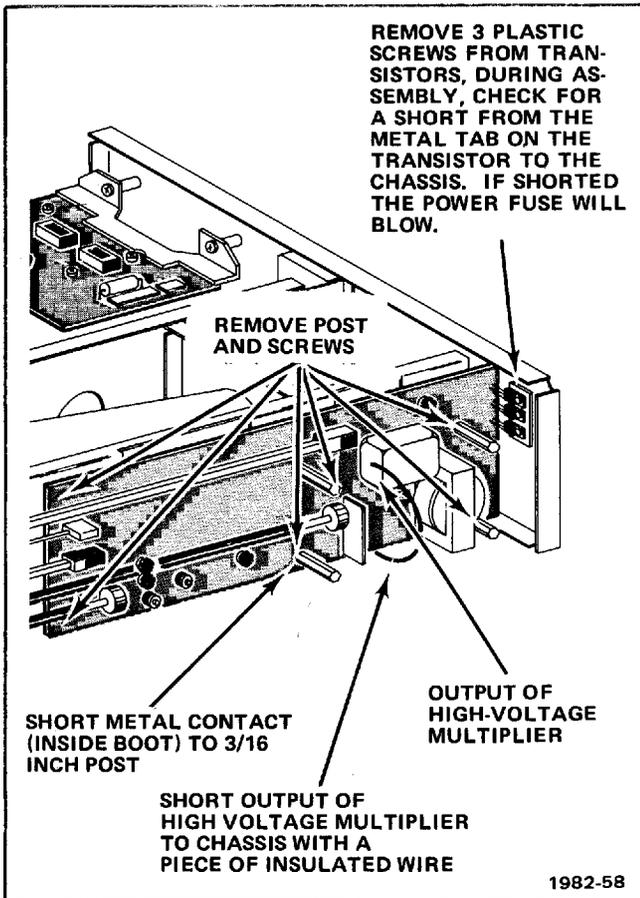

Fig. 5-12. T922R interface board replacement.
The crt anode and the high voltage multiplier will hold a charge after you turn off the instrument. To prevent a shock hazard, use only one hand to remove the anode lead. Then, touch the anode lead to one of the posts to discharge the crt (see Fig. 5-12). Also take a short piece of insulated wire and short the output of the high-voltage multiplier to the chassis (see Fig. 5-12).
9. Remove the screws and posts from the interface board (see Fig. 5-12).
11. During reassembly, use the plastic screws to hold the power transistors (see Fig. 5-12).
The crt anode and the high-voltage multiplier will hold a charge after you turn off the instrument. To prevent a shock hazard, use only one hand to remove the anode lead. Then, touch the anode lead to one of the posts to discharge the crt (see Fig. 5-12). Also, take a short piece of insulated wire and short the output of the high-voltage multiplier to the chassis (see Fig. 5-12).